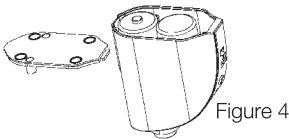

Figure 4
2. Please refer to Figure 4 for the installation of batteries to avoid wrong polarity that may damage the Virtual Wall.